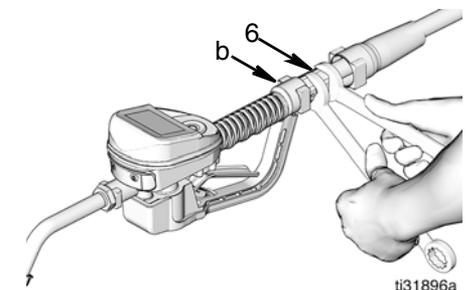

FIG. 39
5. If the metered dispense valve was taken out of service (disconnected from the supply hose), apply thread sealant to the male threads of the hose fitting. Thread the hose fitting (b) into the metered dispense valve swivel (6). Use two wrenches to tighten securely (FIG. 39).